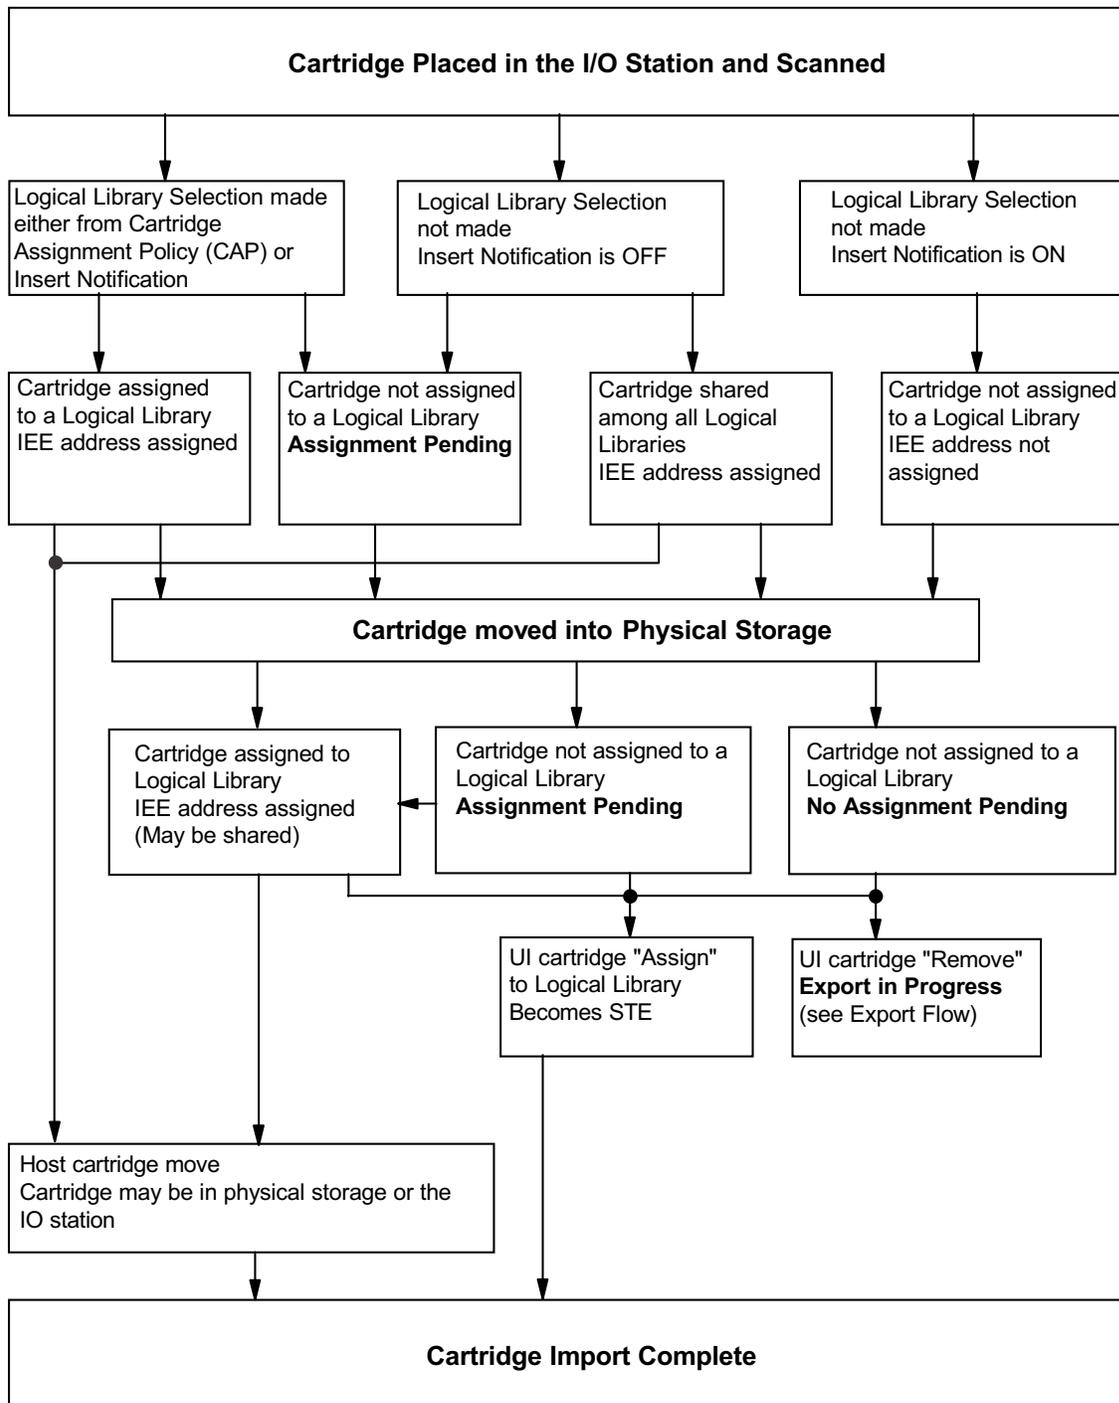

Figure 26. Scenarios for importing cartridges into the TS3500 tape library when virtual I/O slots are enabled
2. After you have seated the cartridges, the library will automatically move them into storage slots. How each cartridge is assigned to a logical library varies, depending on whether the cartridge assignment policy and insert notification features are set. For additional details, see Figure 26 on page 80.
- See Figure 26 on page 80, then follow the procedure in “Assigning cartridges to a logical library” on page 117.